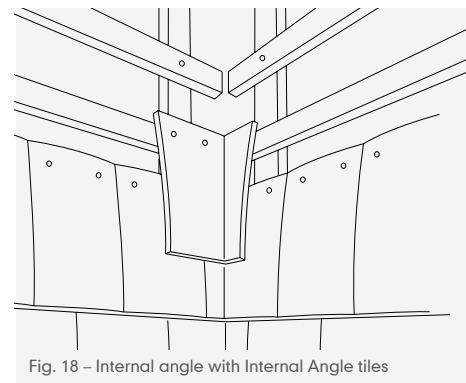

Fig. 18 – Internal angle with Internal Angle tiles
- 2 Left and right hand angles of 90° (or other angle to suit) are available to provide a broken bond with main tiling, to be twice nailed (Figs. 18 and 19).